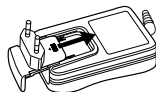

Figure 2
2. Align the plug that matches the power outlet of your area with the AC adaptor slots. Slide it in place in the direction of the arrow shown in Figure 2.